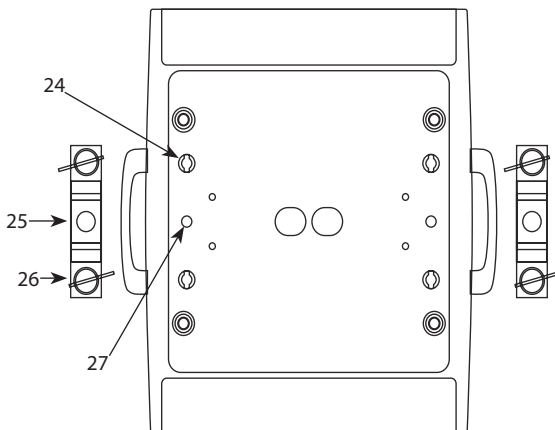

Fig. 4
The V575SPOT may be set up on a solid and even surface. By means of the fixing facilities of the base plate, the unit can also be mounted upside down to a cross arm. The base plate is shown in figure 4. For fixing, stable mounting clips are required. Directly screw the clips into the M10 threads (27) or fasten them to the supplied mounting brackets (25). According to the figure, the bolts (26) of the brackets are placed into the openings (24) provided in the base plate and turned clockwise until they lock (to the stop). The mounting place must be of sufficient stability and be able to support a weight of 10 times of the unit's weight.